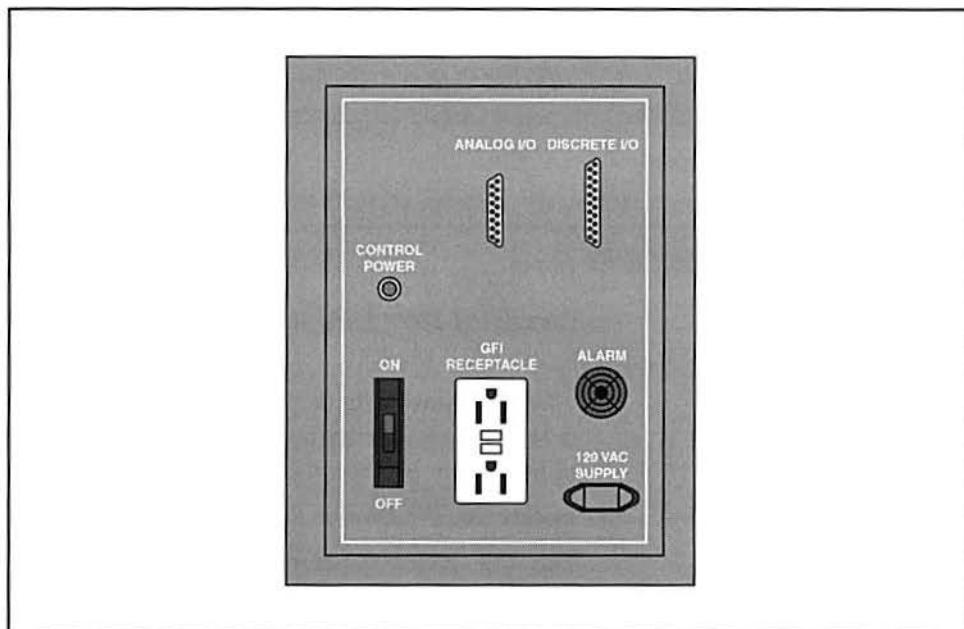

Figure 24. Main Power Panel Components
F. Locate the **Main Power Panel**, identified in figure 24.
The Main Power Panel, shown in figure 24, is located on the left side of the control panel enclosure. It contains the PLC interface cable connections (discrete I/O and analog I/O), the alarm horn, a control power LED, GFI duplex receptacles for external devices, and the main circuit breaker (on/off switch).